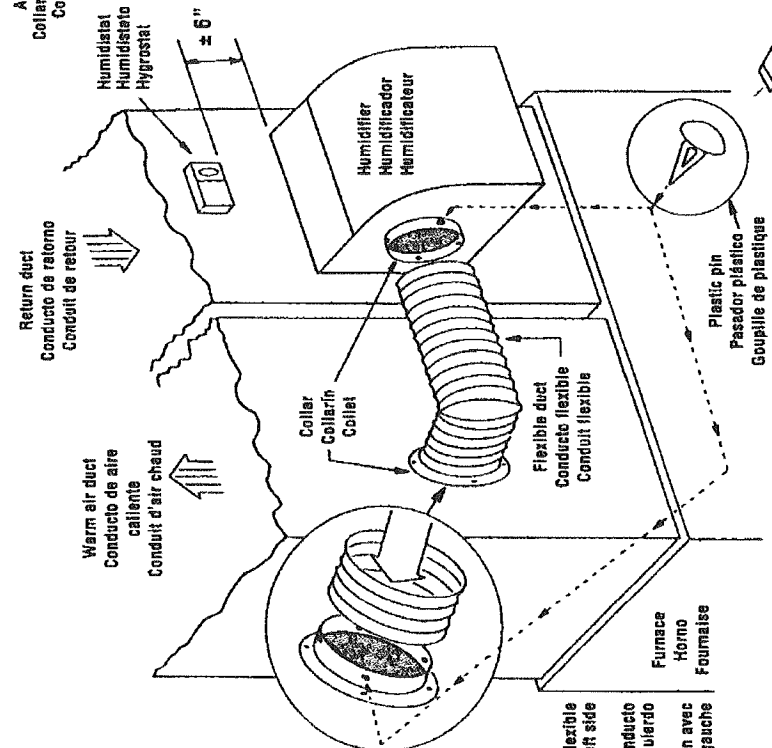

FIG. 2
7. Installing the flexible duct (Please see the general view Fig. 2)